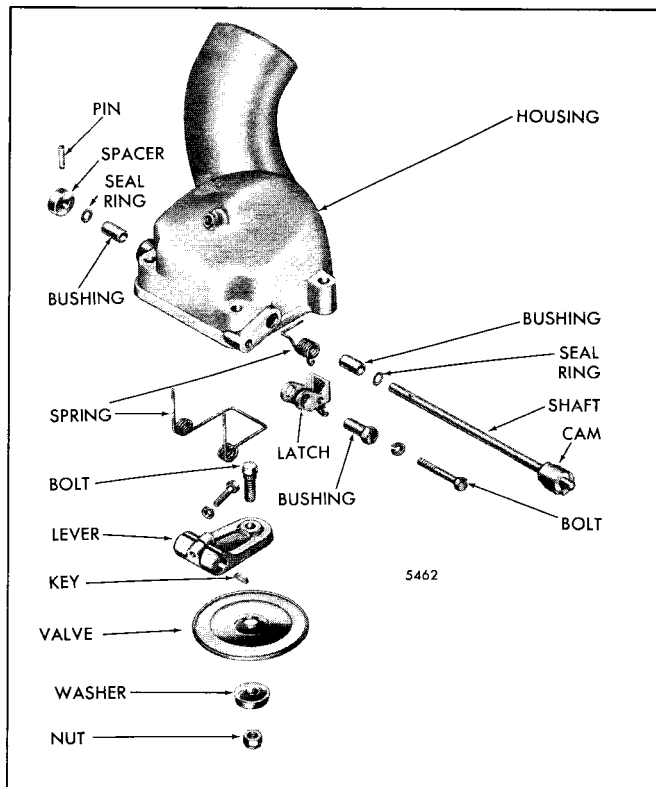

Fig. 5 - Intercooled Engine Air Shutdown Housing Assembly
1. Refer to Fig. 5 and remove the retaining pin from the spacer and the shutdown shaft. Remove the spacer from the shaft and the seal ring from the housing. Discard the seal ring.
1. Refer to Fig. 5 and remove the retaining pin from the spacer at one end of the shutdown shaft. Remove the spacer from the shaft and the seal ring from the end of the housing. Discard the seal ring.